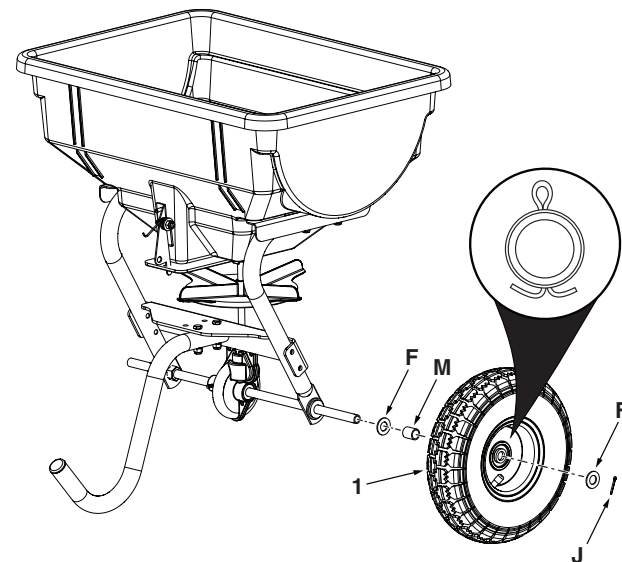

Figure 8
STEP 8: (SEE FIGURE 8)
- Attach a wheel to the right side by sliding onto the axle, a 17/32" washer (F), a plastic spacer (M), a wheel (1), another 17/32" washer (F) and secure with a 3/4" cotter pin (J) by bending the ends out.